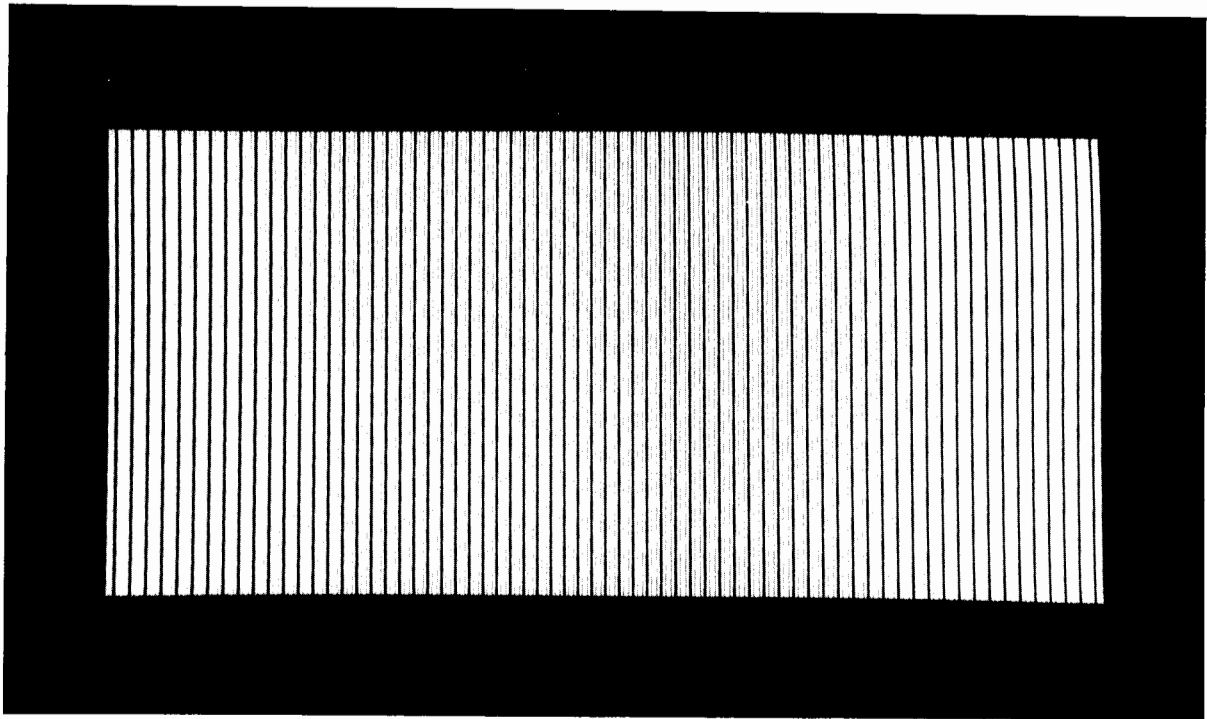

Figure 2-9. CRT Test Pattern 1
- a. Vertical bars (CRT test pattern 1), as shown in figure 2-9. These bars remain on the screen for about 15 seconds.